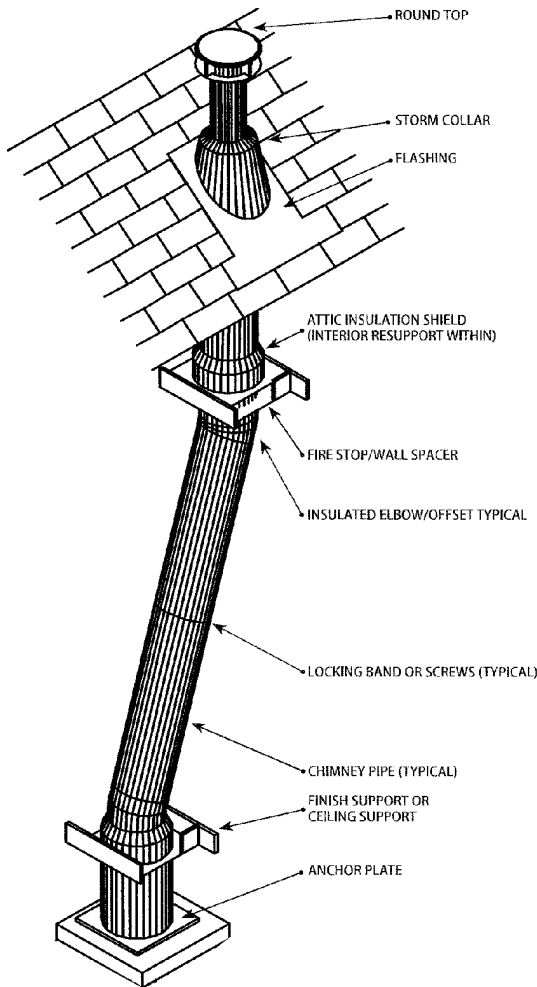

Figure 24. Metal Chimney Construction
B. Complete chimney installation as shown in Figure 24. As the chimney extends through the attic to the roof, attach securing straps to rafters and joists as required to provide stability.